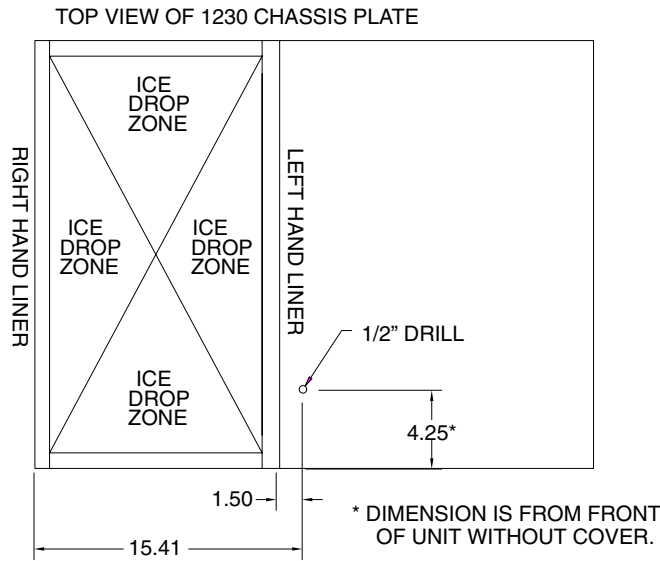

Figure 3
4. If there is not a hole already in the chassis base, drill a 1/2" hole in the chassis base as indicated in Figure 3.